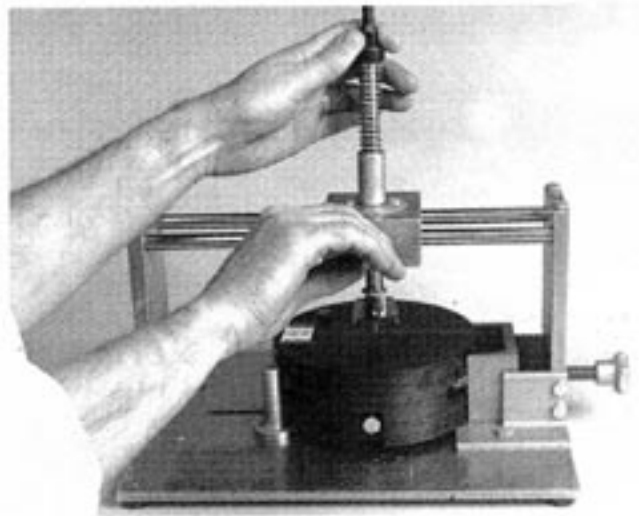

Figure 11 — Centering Cutter Blade
- 6.06 Loosen lock screw in bearing block. Lower shaft until center point of cutter blade is on desired position for center of hole. Hand tighten lock screw in bearing block. Figure 11.